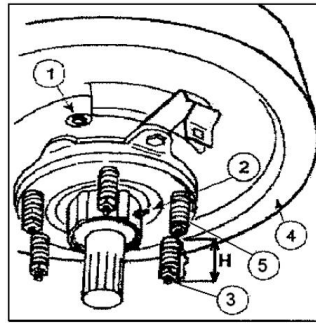
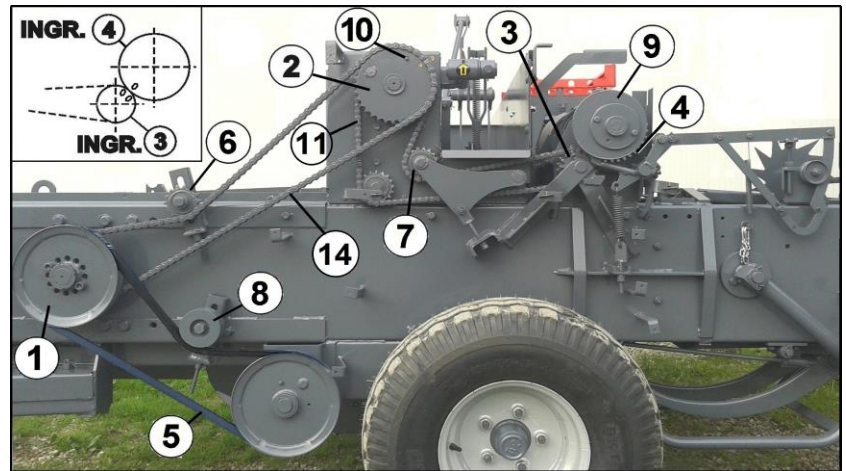

Fig. 6
Fig. 12
When the flywheel safety bolt (no. 1 fig.6) is cut as the pawl is activated, it causes, excluding pawl poor adjustment, may be:
1. Linking is carried out by means of chain between chain gear 1 Fig. 12, free on its own axis by unscrewing special socket head screw, **and** the gear driving the forks of double gear 2 Fig. 12.
2. By rotating the flywheel (n.4 – fig.6) anti-clockwise by hand, the plunger is moved forward and the tip of the upper In these conditions, gear 1 fig. hooks positions flush with the fork teeth passage slot (See figure 12 bis). With the plunger in this position, the crank of the first fork (n.8 – fig.10) is rotated to have a distance of approximately 40-60 mm from the head hook of the plunger (see figure 12 bis). In this conditions the gear n.1 – fig.12 is made integral with its axis by means of the special socket head screws.
The system of opposite multi-hole flanges makes it possible to lock gear 1 fig. 12 in the required position with minimum deviation.
Fig. 12 bis
5. Then, by rotating the flywheel (n° 4 fig. 6), counter-clockwise, bring the plunger into such a position as to have its front spurs at approximately $0 \div 10$ mm. from the tips of the previously positioned needles (see fig. 13bis).